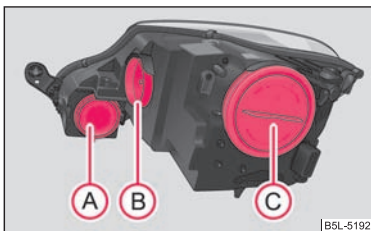

Fig. 193 Front headlight: Fitting position of the bulbs
Positions of the light bulbs in the front headlight ⇒ fig. 193.
- Remove the rubber protective cap ⑥ ⇒ page 228, fig. 193.
- Remove the rubber protective cap (A) ⇒ page 228, fig. 193.
- Unplug plug ①.
- Take the faulty bulb out of the fixture ② by pressing the light socket downwards and insert a new one.
- Take the faulty bulb out of the fixture ② by turning in direction of arrow and insert a new one in the reverse procedure.